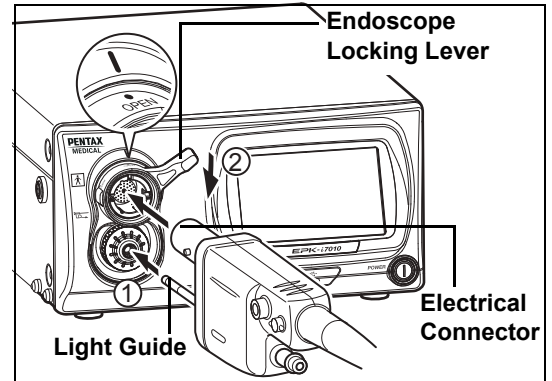

Figure 3.1
- 2 Insert the endoscope firmly into connector ① of the processor. Close the endoscope locking lever in the direction of ② until it clicks into position. (Refer to Figure 3.1.)